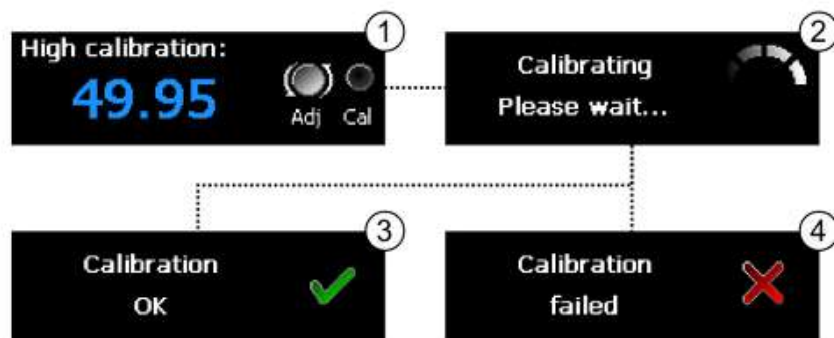
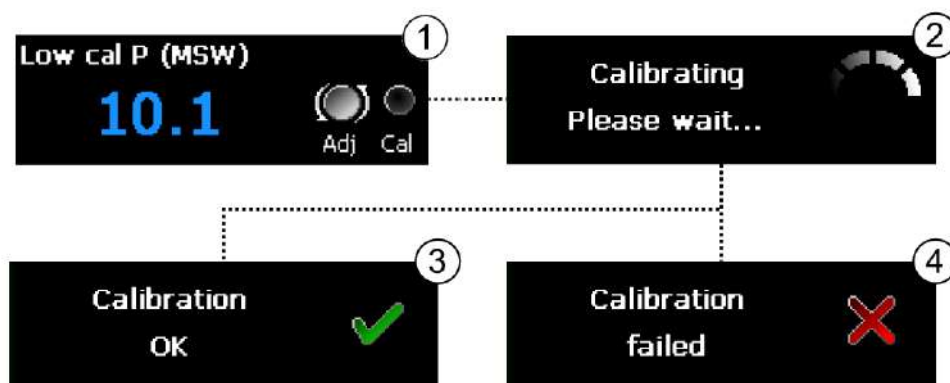

Figure 38 Gas calibration adjustment
Figure 42 Pressure calibration adjustment
With the toggle switch held, the calibration value entry panel will be shown (**Figure 38** ①) with the value coloured blue. Rotating the adjustment knob allows the calibration value to be increased or decreased. The adjustment knob should be rotated until the known concentration of the calibration gas is displayed.
Once an adjustment has begun the sensor will take a moment to process the adjustment request (**Figure 38** ②) and will decide whether the value supplied is reasonable. See troubleshooting (Section 7) for possible invalid calibration conditions.
If a calibration adjustment is accepted, then a 'Calibration OK' message will be shown (**Figure 38** ③).
(**Figure 38** ^④). Both of these messages can be cleared by pressing the mute button.
With the toggle switch held, the calibration value entry panel will be shown (**Figure 42** ①) with the value coloured blue. Rotating the adjustment knob allows the calibration value to be increased or decreased. The adjustment knob should be rotated until the known value of the calibration pressure is displayed.
(**Figure 42** ²). Figure 38 Gas calibration adjustment and will decide whether the value supplied is reasonable. See troubleshooting (Section 7) for possible invalid calibration conditions.
If a calibration adjustment is accepted, then a 'Calibration OK' message will be shown (**Figure 42** ³).
Should an adjustment request be rejected then a 'Calibration failed' message will be shown instead (**Figure 42** ⁴). Both messages can be cleared by pressing the mute button.